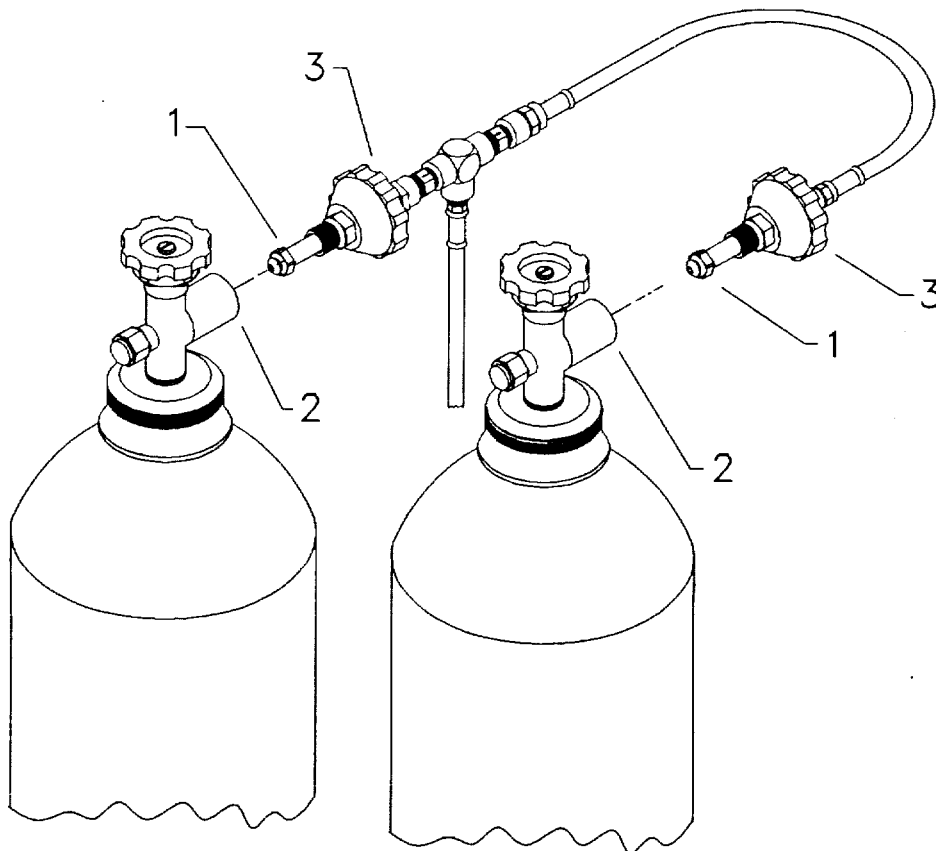

Figure 2-2. Connecting Nitrogen Tanks
- c. Refer to Figure 2-2. Inspect the O-ring at the end of the nipple connector (1) for cuts and bruises. Connect each tank to its connector by inserting the nipple connector (1) into the tank connector port (2), fully seating the connector (1) and turning the knurled hand nut (3) until it is hand tight.